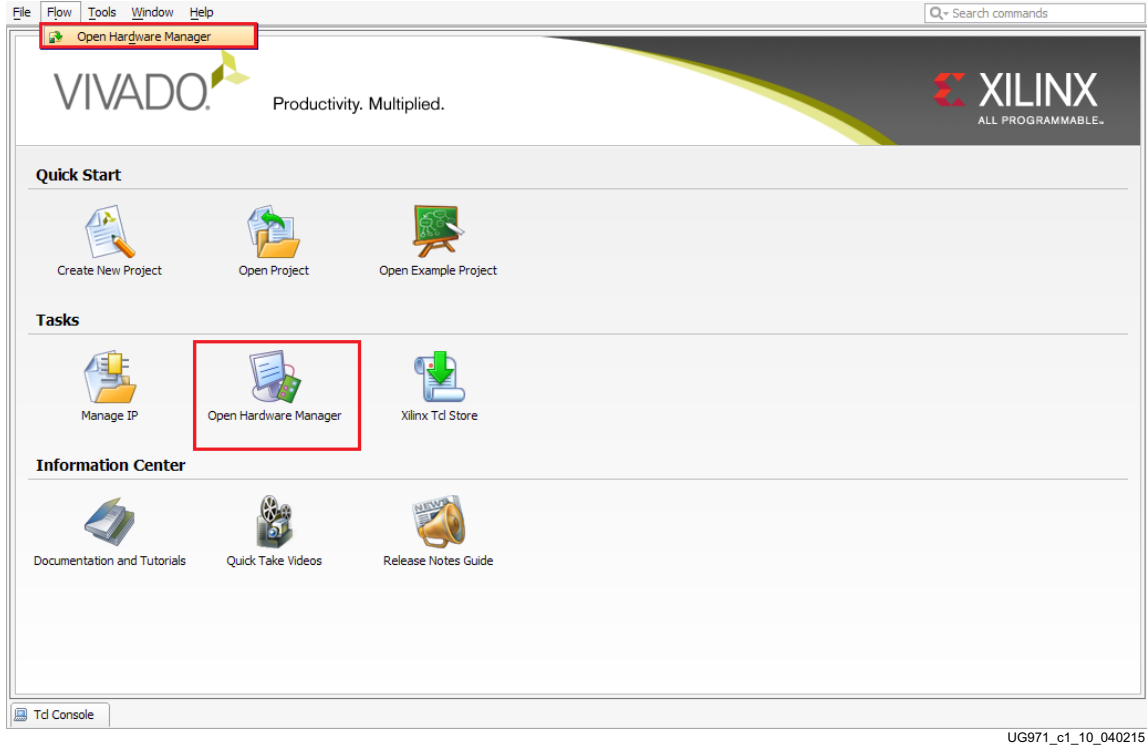

Figure 1-10: Vivado Design Suite, Open Hardware Manager
1. Start Vivado Design Suite on the host computer and click **Flow > Open Hardware Manager** (highlighted in Figure 1-10).